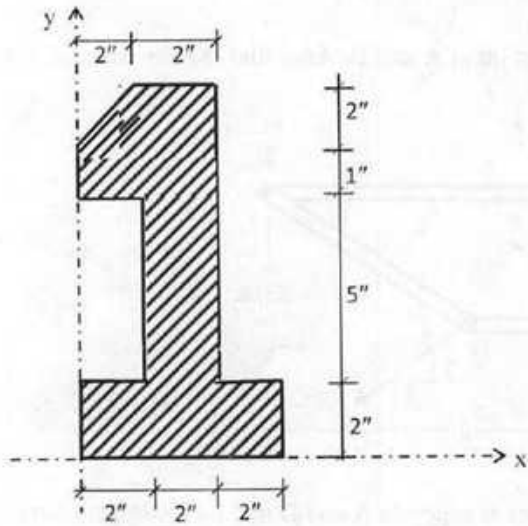

Figure-1
11. Find the centroid of the following composite Area shown in Figure-1.
12. Calculate the moment of inertia and radius of gyration of the composite area shown in Figure-1 about its centroidal axis (X & Y).